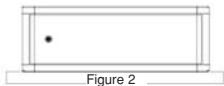

Figure 2
2. Rotate the digital level 180° in the same plane, see figure 2, wait 10 seconds until the display data is stable then record the second degree value.